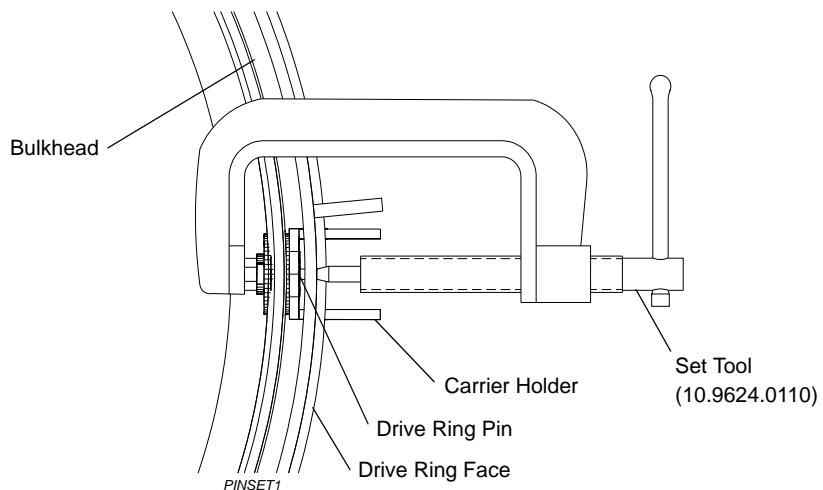

Figure 2-23: Drive Ring Pin Setting
Step 13. At newly installed pin location, using setting tool (10.9624.0110), press pin until it is flush with outer face of drive ring. Approximately 3/16" of pin should protrude from carrier holder. **Figure 2-23.**